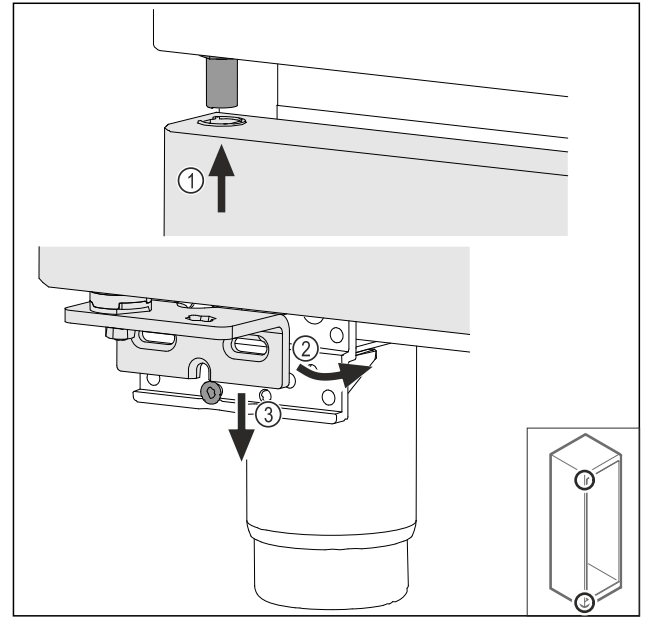

Fig. 66
- ▶ Feed in the door slightly tipped at the top Fig. 66 (1), align the door straight Fig. 66 (2) and fit the swap bearing block screw Fig. 66 (3) at the bottom.